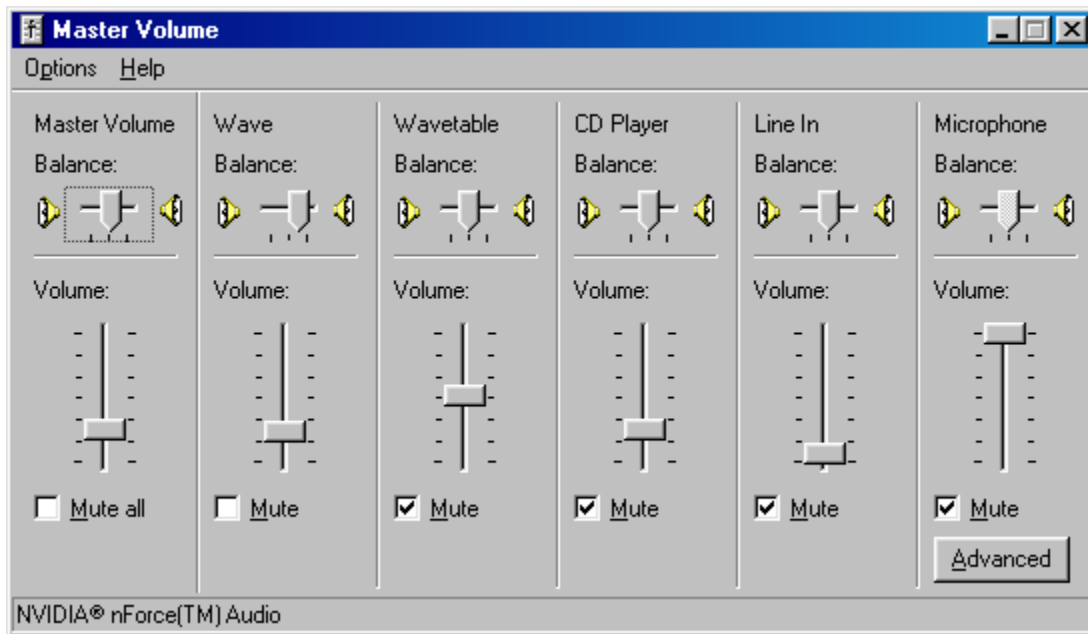

Figure 7.3 PC Tx Volume Control Panel
7.4.1 PC Transmit Drive Adjust - Go to the Digipan Screen, and select **Configure/Transmitter Drive**. The volume control panel for the sound card should appear. On that screen select **Options/Properties**. The Button for "Playback" should be set. In the panel at the bottom, click on all of the sources so you can view their settings. Click "OK". The full Volume Control panel should appear, and should be similar to the view in figure 7.3, below.